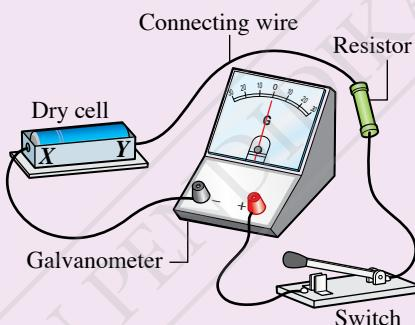

Figure 4.24
- Set up the apparatus as shown in Figure 4.24.